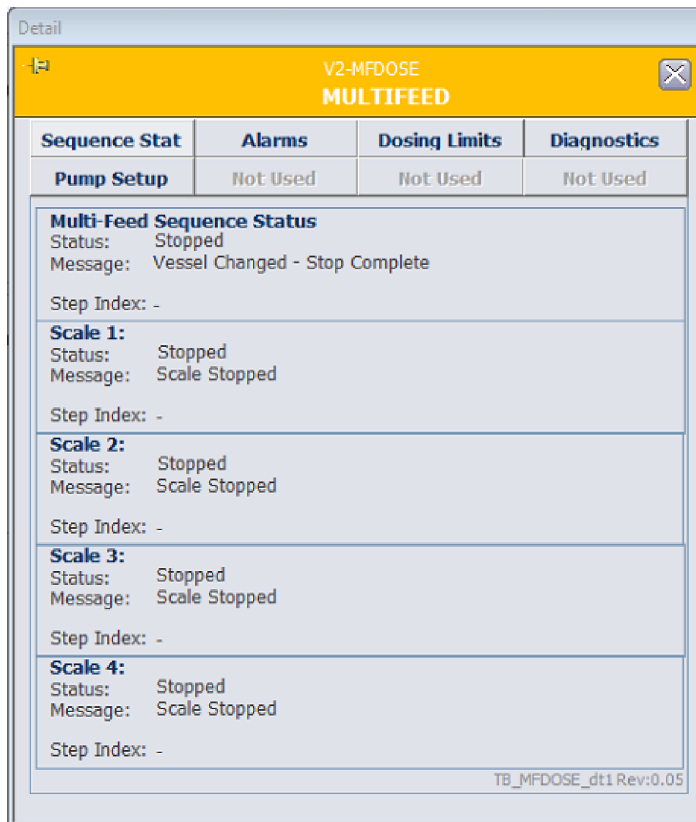

Figure 5.37. Multi-Feed Detail window.
2. On the faceplate, click **Detail** to open the **Multi-Feed Detail** window (Figure 5.37). **Dose** limits, alarms, and status checking can be done from this menu.